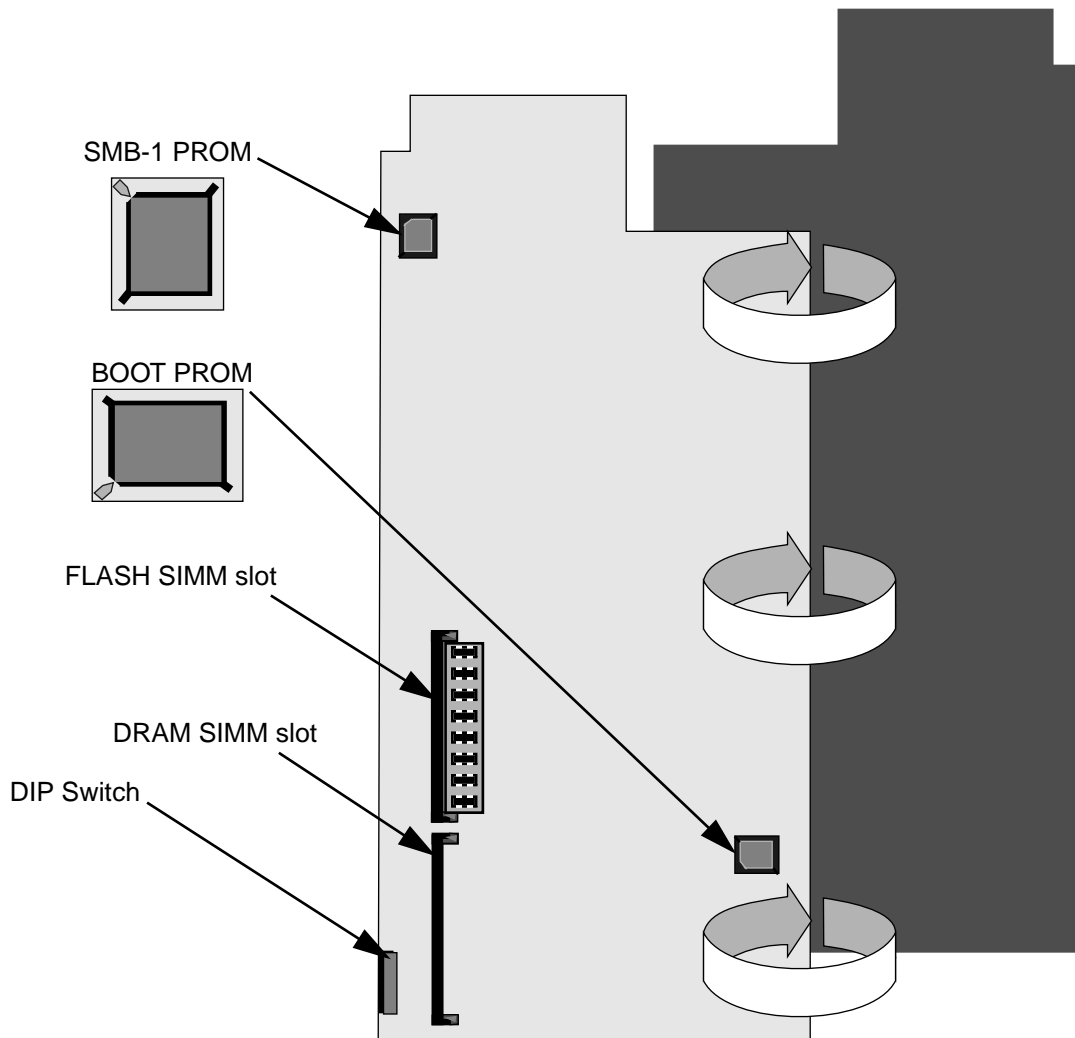

Figure 2-10. User-Accessible Components on Underside of Daughterboard
5. Turn the daughterboard over to reveal its user accessible components (see Figure 2-10).
The 9A426-02 Module is shipped with an SMB-1 Firmware PROM. The SMB-1 Firmware PROM is located on the underside of the module's daughterboard as shown in Figure 2-10.
The 9A426-02 Module is shipped with a BOOT PROM. The BOOT PROM is located on the underside of the module's daughterboard as shown in Figure 2-10.
The 9A426-02 Module is shipped with a 4Mb FLASH SIMM. The FLASH SIMM's socket is located on the underside of the module's daughterboard as shown in Figure 2-10.
The 9A426-02 Module is shipped with 16 Mb of DRAM (on the module's motherboard). However if additional DRAM is desired, you can install a DRAM SIMM in the socket on the underside of the module's daughterboard as shown in Figure 2-10.